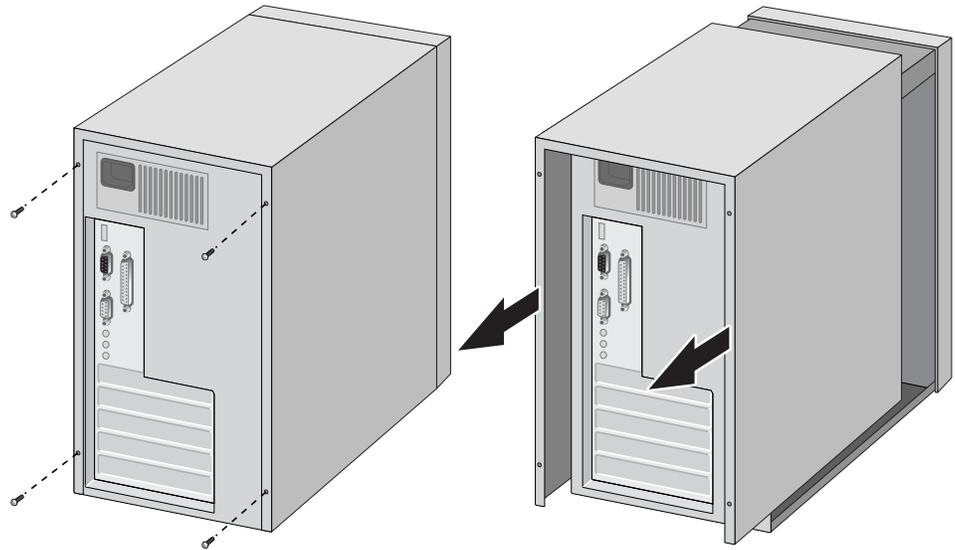

Figure 9. Removing the PC Cover
2. Remove the system cover and select any appropriate empty PCI slot. See Figure 9 on page 35.